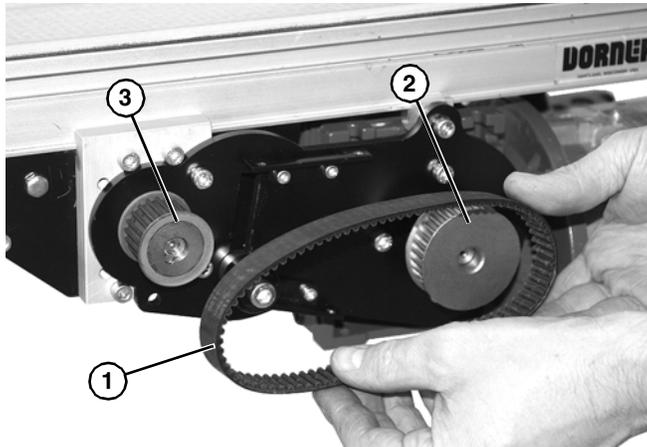

Figure 16
- Remove timing belt (Figure 16, item 1).
If timing belt does not slide over driven pulley (Figure 16, item 3) flange, loosen driven pulley set screws and remove pulley with belt (Figure 16, item 1). For re-installation, see steps 7 and 8 of "Bottom Mount Mid Drive Assembly" story on page 8.
- Install new timing belt around drive pulley (Figure 16, item 2) and driven pulley (Figure 16, item 3).
If drive pulley (Figure 16, item 2) is replaced, wrap timing belt around drive pulley and complete step 3.